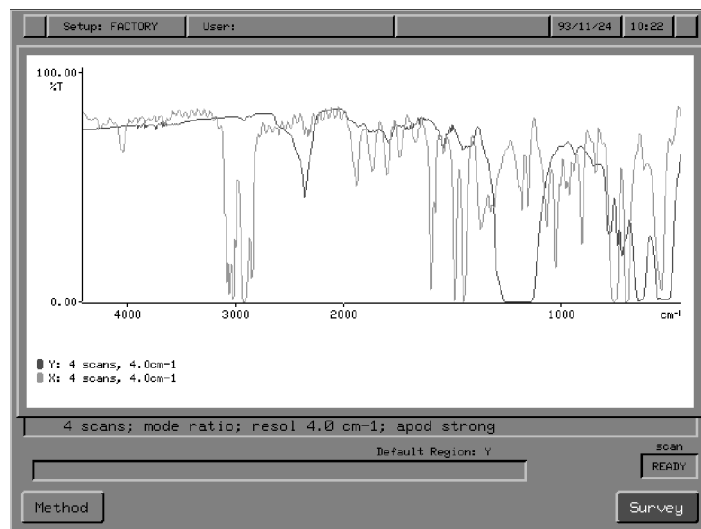

Figure 3-30 The Graphics Display of the Spectrum RXI
- If graphics are on, the display area contains axes that display the contents of one or more of the four spectrum regions (Figure 3-30).